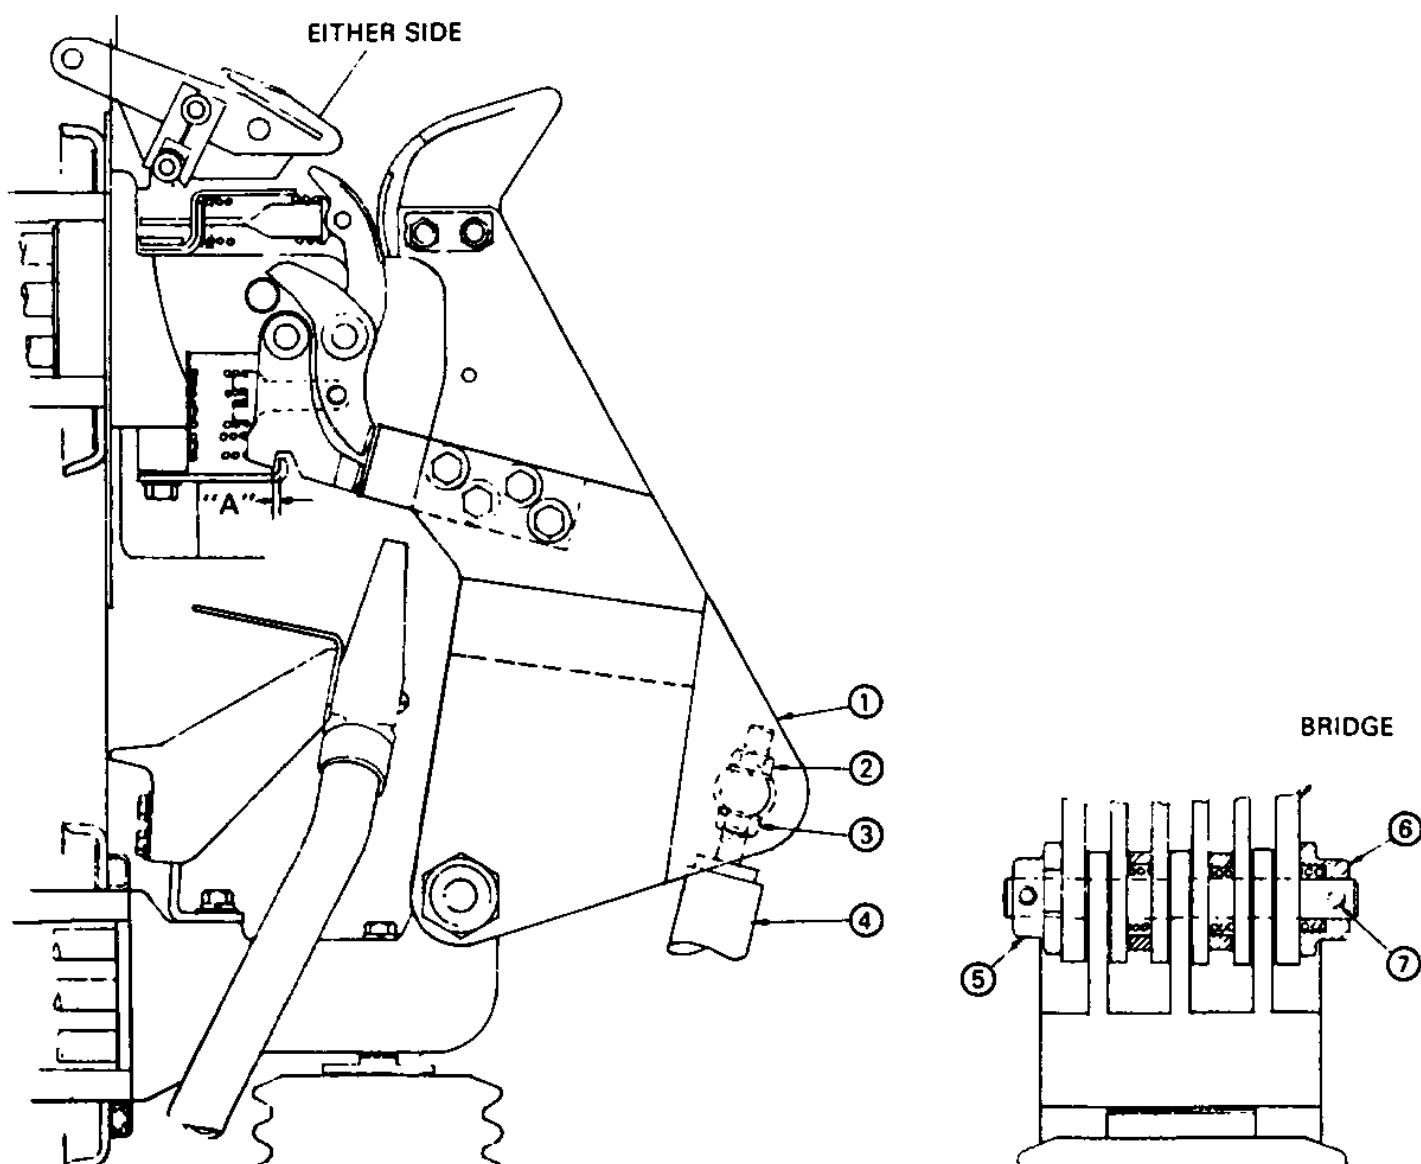

Fig. 6 — Contact Pressure and Bridge Pivot Pressure
5.2 CONTACT PRESSURE (See Figure 6)
5.6 BRIDGE PIVOT PRESSURE (See Figure 6)